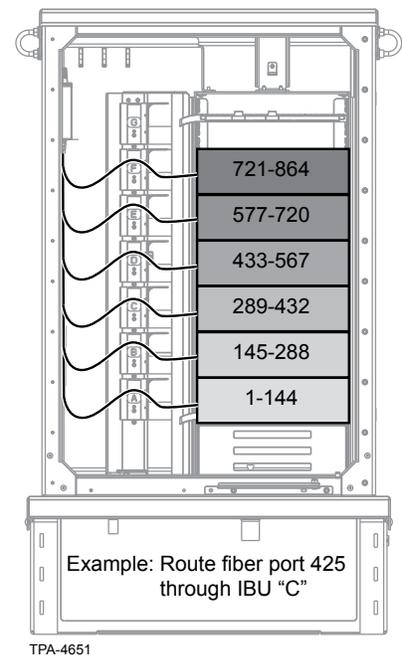

Figure 13
Step 3: Route distribution legs from the splitter module to the distribution cassettes. Follow the splitter routing scheme (Figure 13) to store slack on the inter-bay unit (IBU) guides.